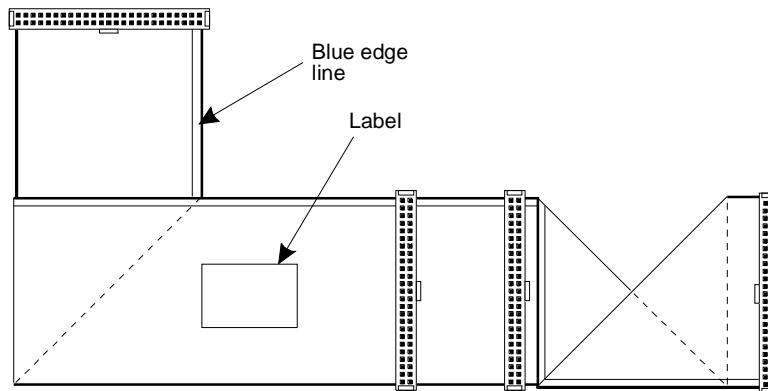
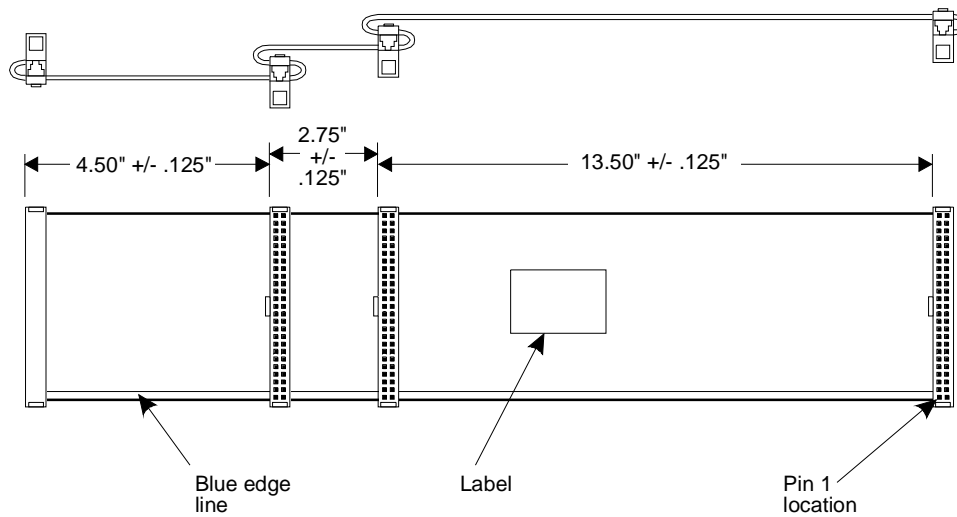

Figure A-31. SCSI Cable for SCSI Peripherals; Folded View
Figure A-32. SCSI Cable for SCSI Peripherals
1. Figure A-31 shows the SCSI cable as it comes from the factory. Attach the SCSI cable by aligning the SCSI connector with the gold fingers on the hard-drive cable receptacle. Push the connector into the cable receptacle. All connectors are "keyed" to prevent incorrect installation (see Figure A-32).